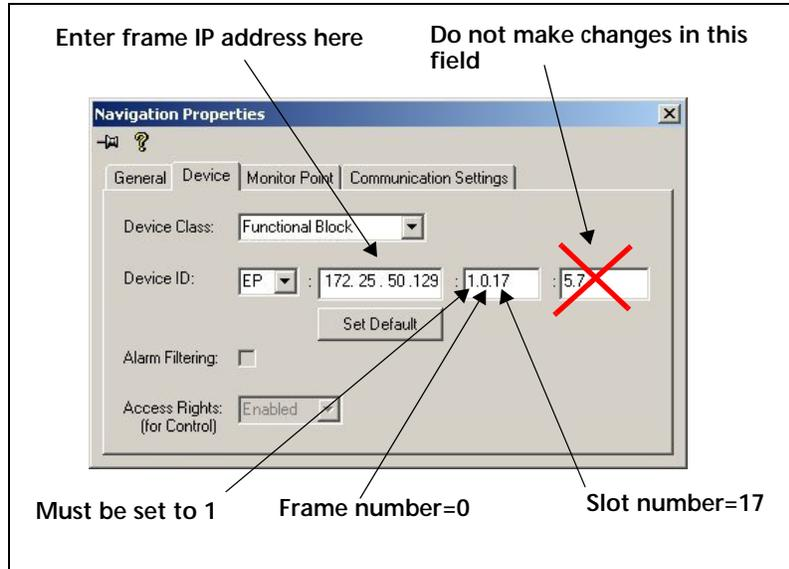

Figure 4-9 Navigation Properties Box
- 3 On the **Device** tab of the **Navigation Properties** box, enter the IP address of the frame that holds the module. (See Figure 4-9.)